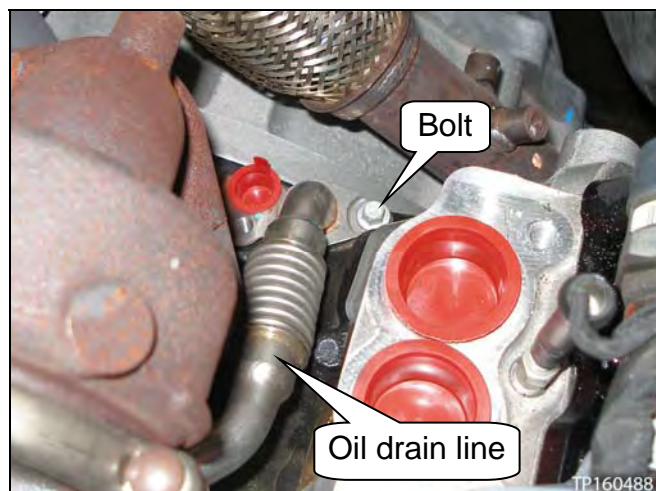

Figure 62
7. Fully insert the oil drain line with new O-ring into the engine block, and then install the bolt (see Figure 62).